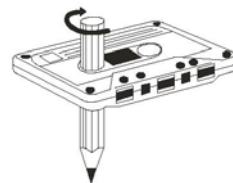

Fig. 2
- Check that there are no loose layers of tape visible through the cassette center window (see Fig. 1). Take up any loose layers, using a pencil or hexagonal barrelled ballpoint pen, before inserting the cassette into the machine (see Fig.2)
- If the cassette feels tight while performing operation shown (see Fig.2), the tape may be jamming due to ridges formed in the winding of the tape (visible through the center window). These may be removed, in most cases, by fast winding of the cassette from one end to the other and back again.